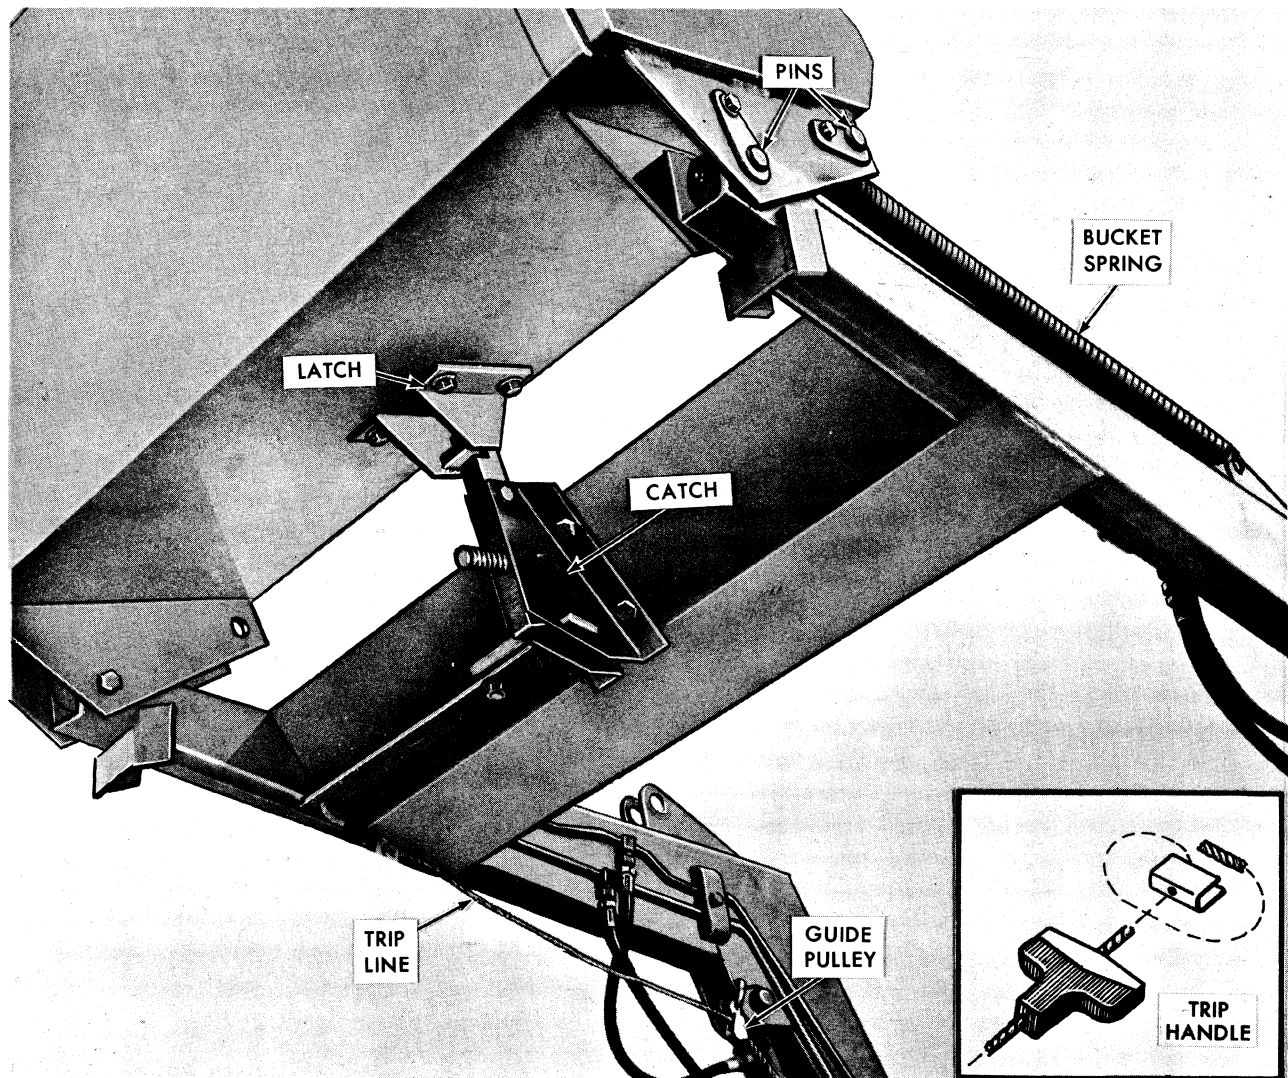

Figure 21
Refer to Figure 21 for the following steps:
8. Mount the hydraulic tube on the inside of the loader arms with the four clamps. Use 3/8" - 24 X 1" bolts to secure the clamps. Finger tighten until the proper positioning is obtained then tighten the clamps. See Figure 21.
9. Attach the two hoses to the piston end of the cylinders and to the swivel fittings on the hydraulic lines, Figure 21, on both sides.